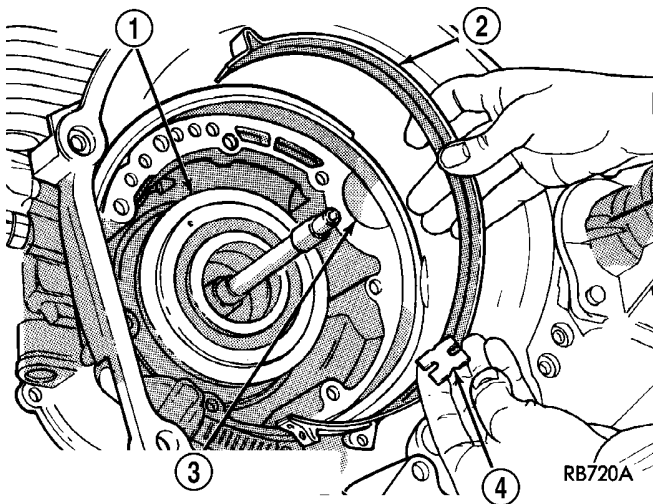

Fig. 57 Kickdown Band and Strut
(16) Install kickdown band (Fig. 57). Do not install strut or adjust at this time.